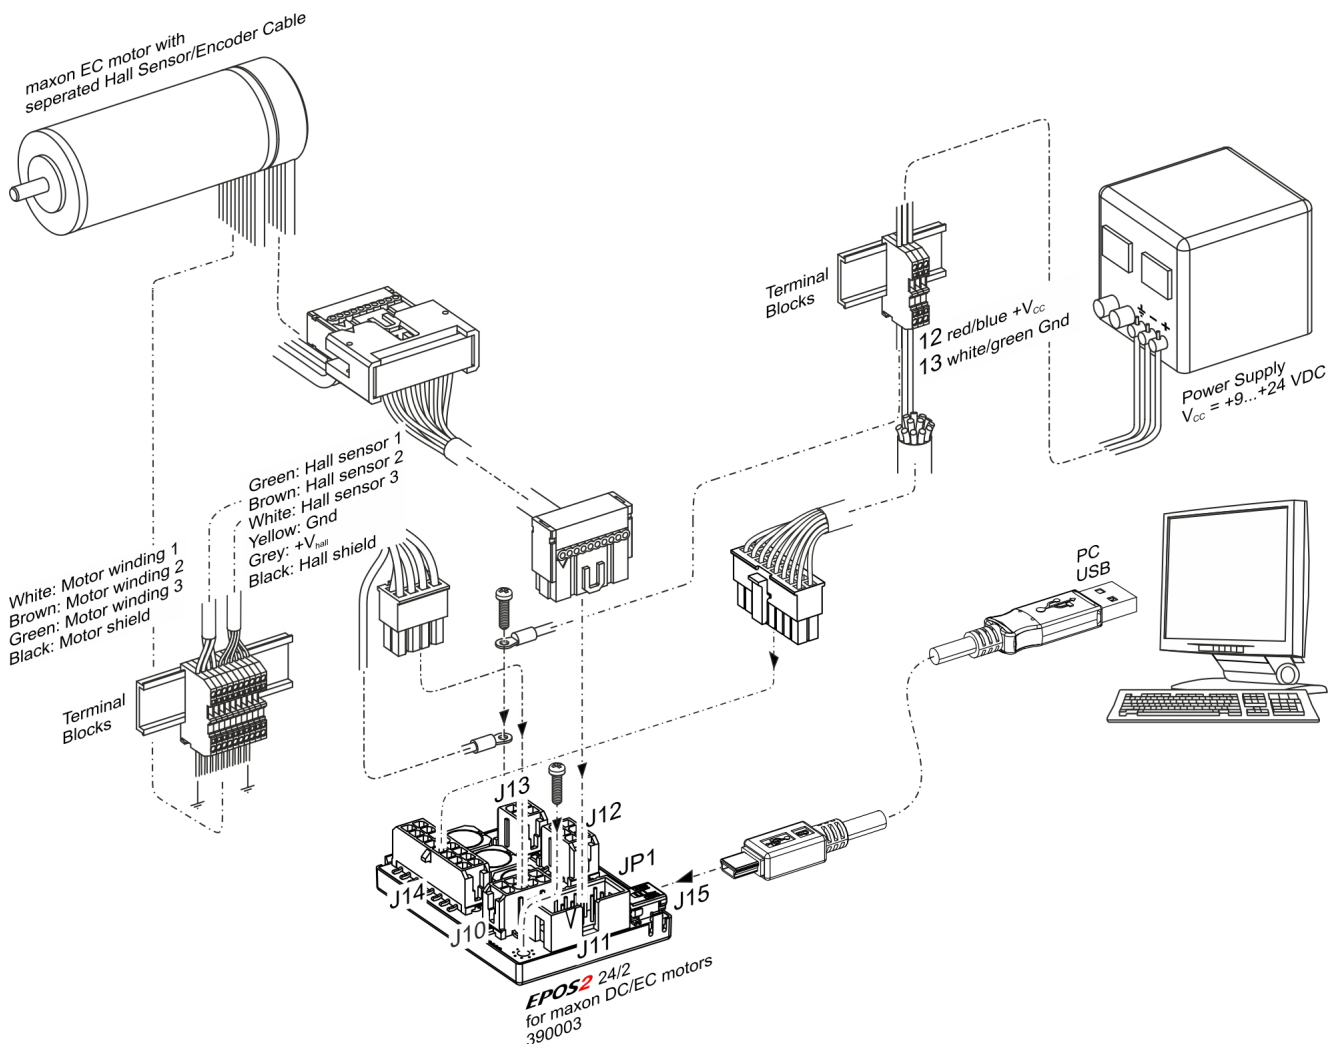

Figure 3-6 Minimum Wiring: maxon EC motor (separated Hall Sensor/Encoder Cable)
- 2) Connect maxon cable assemblies (→ Table 3-9 and Figure 3-6).